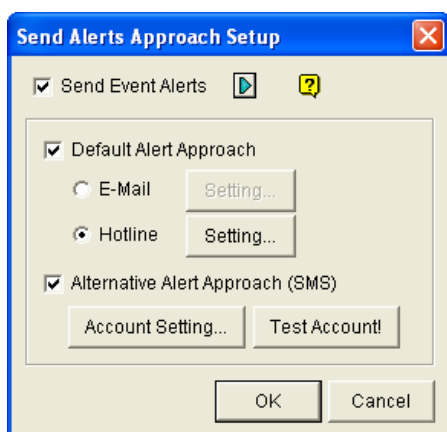

Figure 10-12 Send Alerts Approach Setup
- ⑩ **Local:** If the GSM/GPRS modem is installed at the same server with the GV-System, select this item.
- ⑩ **Remote:** If the GSM/GPRS modem is installed at a separate server, select this item.
7. Click the **Test Account** button (Figure 10-12). If the connection of both devices is established, the message will appear: *Login SMS Server OK!* If the connection fails, the message will appear: *Connect to SMS Server Fail.*
1. Open the **Send Alerts Approach Setup** dialog box (Figure 10-12).
1. On the main screen, click the **Configure** button (No. 14, Figure 1-2), select **System Configure**, and select **Send Alerts Approach Setup**. The Send Alerts Approach Setup dialog box (Figure 10-12) appears.